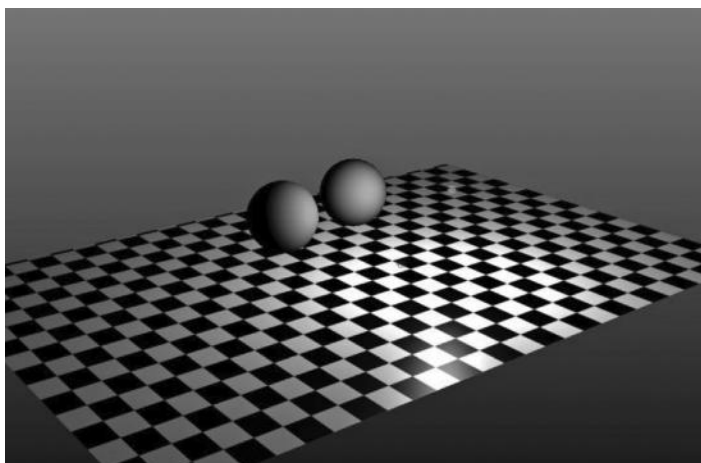

FIGURE 4.25 Point light without decay.
**Decay rate**—Decay is how the intensity of the light is reduced as the distance from the light is increased. Although this value is turned off by default, it is a more realistic model of how light actually occurs in the real world. In Figures 4.25 and 4.26 you will see a scene lit by a single point light. In Figure 4.25 the light has no decay, while in
intensity will need to be in order for the light to illuminate the area because the light will decay so fast it will not light anything at all. In Figure 4.25 the intensity value is set to 1, yet in Figure 4.26 the intensity value is set to 600. If the value were to be set to 1 in the light using decay, it would appear completely dark because the decay would cause the intensity value of the light to reach zero before it reached the objects. There are several variations on decay speed, and as the rate increases, so will the intensity need to be cranked up in order to see anything in the scene. Decay is only available in lights that emit from a point in space; therefore, only the point light and spotlight can use it.